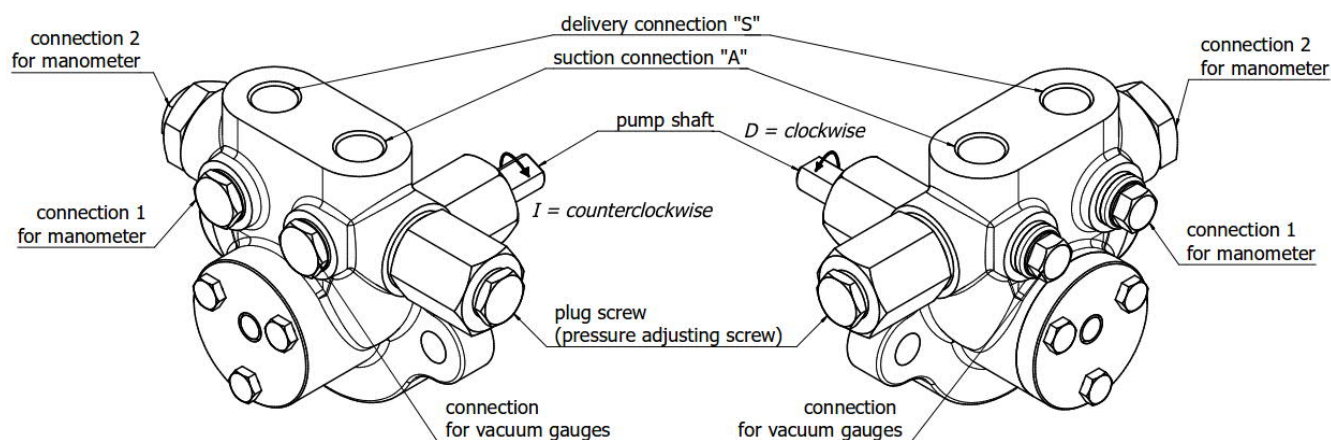

Fig. 1.
- The suction connection (see Fig. 1) of the pump is filled with oil. Then the suction line is connected to thread connection „A“.
- The pressure/delivery line connects to thread connection „S“. (Fig. 1)
- Remove the screw plug for connecting the manometer 1 / vacuum gauge (Fig. 1). The pressure gauge connected to port „A“ it shows the suction pressure and the pressure gauge connected to port „S“ it shows the delivery pressure. Observe using manometers with the right pressure range (according to the pump's pressure range).
- For pressure regulation, the plug screw (see Fig. 1) must be removed.